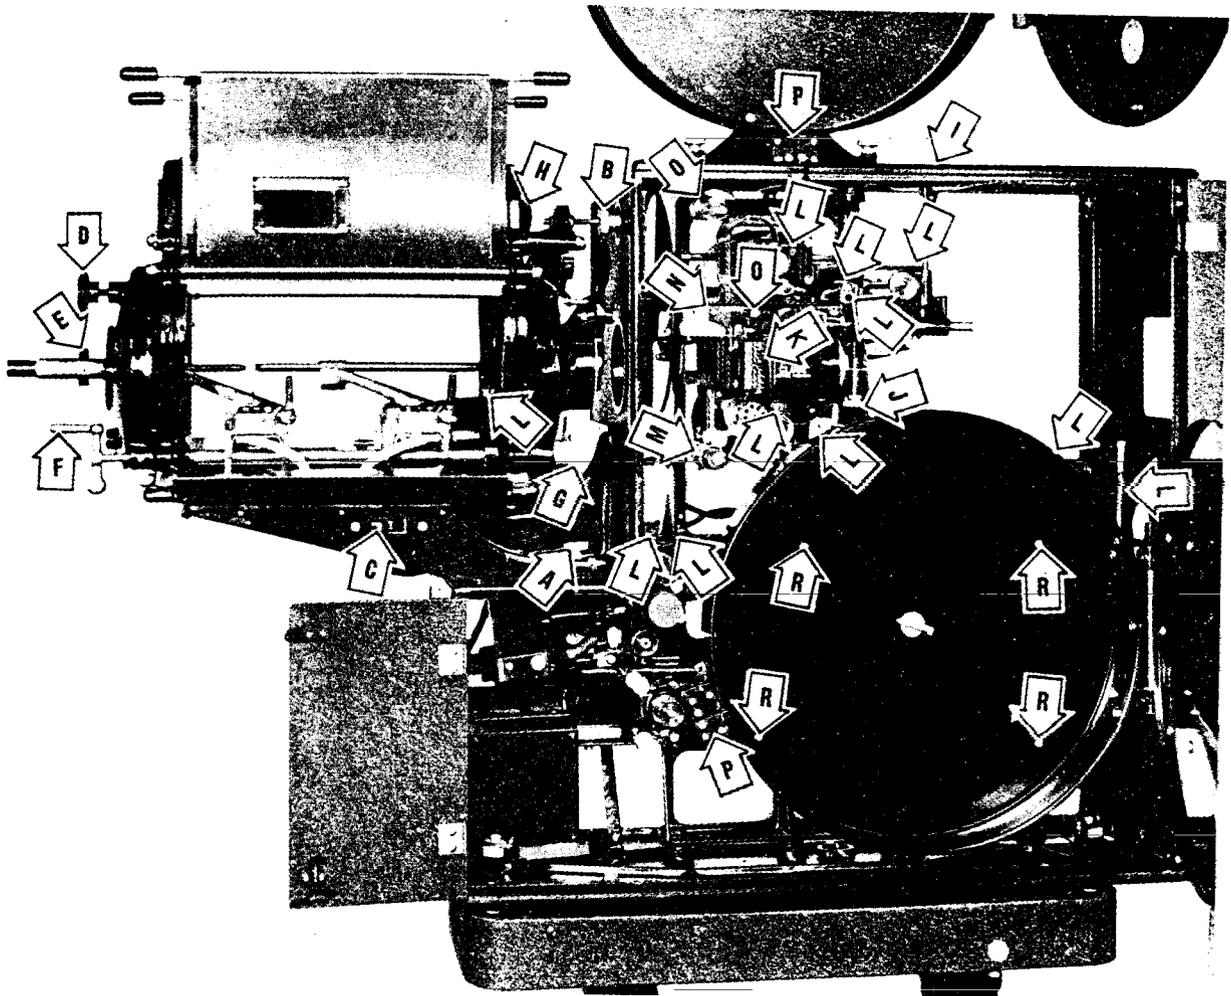

FIGURE 26.
B. Arc Equipment. The Arc Lamp House is attached to the projector by two thumb screws on either side of the base (See "A" in Figure 26). A third point of attachment is at the top of the lamp house, above the dowser, (See "B" in Figure 26) where a special thumb nut is provided. This point also has an adjustment for squaring up the alignment of the lamp house.
On the Arc lamp equipment the arc supply is controlled by the snap switch "C" in Figure 26, and the exciter lamp is controlled by a switch attached to the Arc lamp dowsler at "B" in Figure 26. See Section 9 for description of the Arc lamp adjustment and controls.
The mirror is not adjustable in respect to focus as this distance was fixed in the design of the assembly. The top knob, "D" in Figure 26 adjusts the vertical angularity of the mirror and the side knob, "E", adjusts the horizontal angularity. The hand feed is controlled by the bell
crank handle at "F" which adjusts both carbons, and the crater focus is adjusted by the knob at "G" which also adjusts both carbons simultaneously. The bell crank handle is also used for striking the arc by turning the handle counter-clockwise. The friction adjustment on the feed screw drive is adjusted by the nut located within the focusing knob, "G", and it may be reached with a socket wrench. The automatic feed motor is regulated by the speed control rheostat at "H" in Figure 26.
To place the lamp in adjustment, turn the bell crank until the carbon jaws are approximately 4" apart. Insert a positive carbon with its face 3-5/8" from the center front face of the mirror. Insert a negative carbon with face 1/4" from positive carbon. Set focusing knob "I" in Figure 26 to mid-position. Loosen lens lock nut "J" in Figure 26 and insert lens. Strike arc, quickly withdraw by reversing the handle one full turn and let burn a short while to burn in, keeping the distance regulated by hand to approximately 1/4". Start motor, open dowser and focus the image of the aperture upon the screen by moving the lens back and forth and lock into position when the approximate location has been found. Fine adjustment for good definition may then be made with the focus adjusting knob.